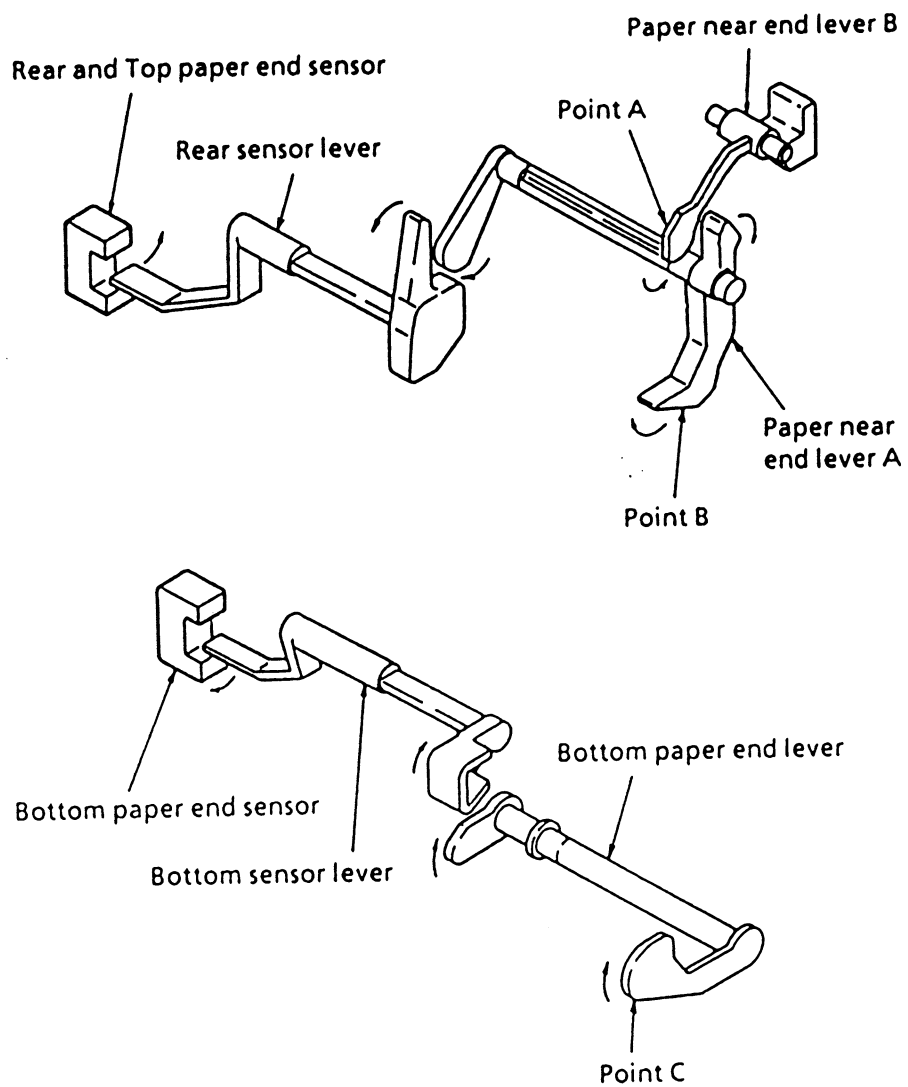

Figure 3-15
3.2.6 Paper detection mechanism (See Figure 3-15)